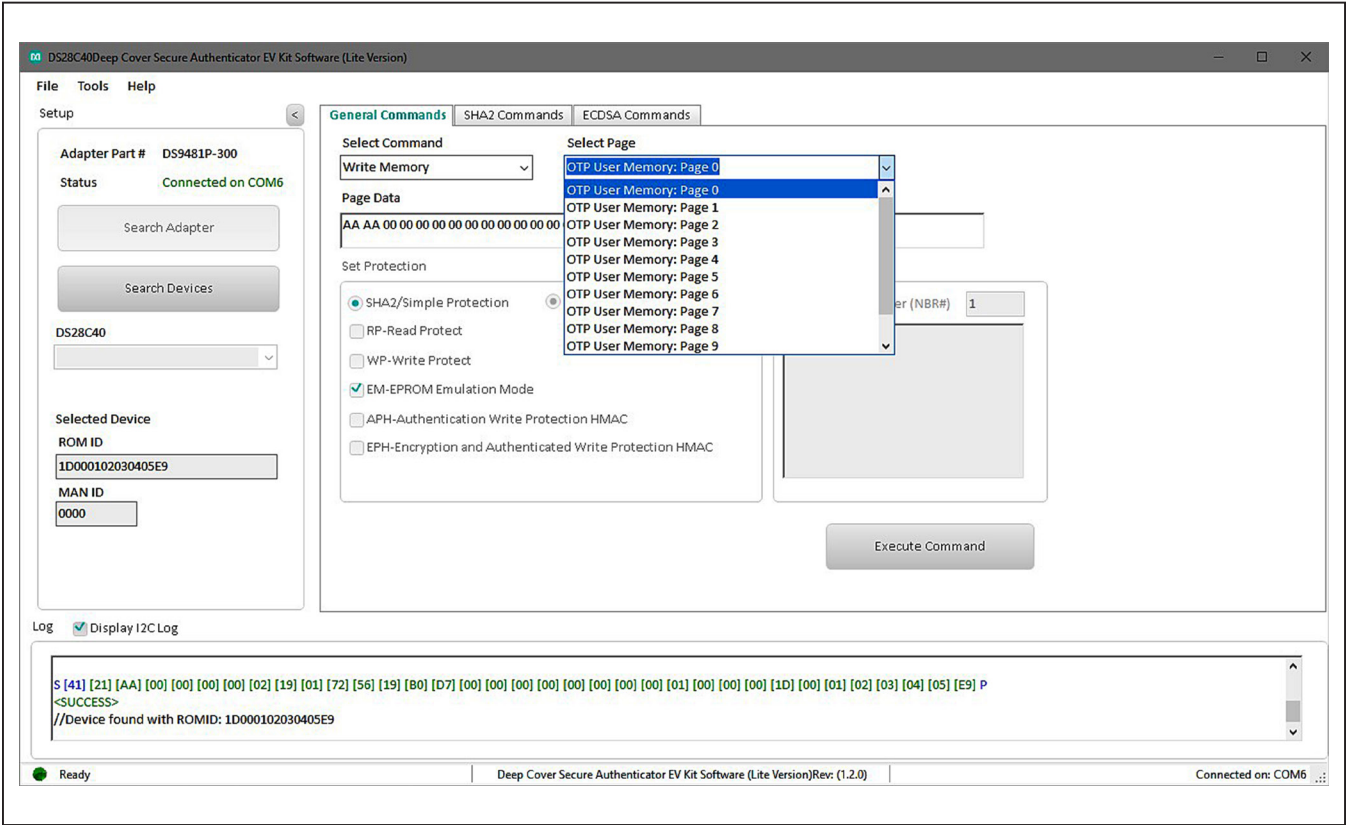

Figure 15. Select Page
4) Select the page for writing (Figure 15).
- 7) From the **Select Page** drop-down menu, select the desired page to read (Figure 15).